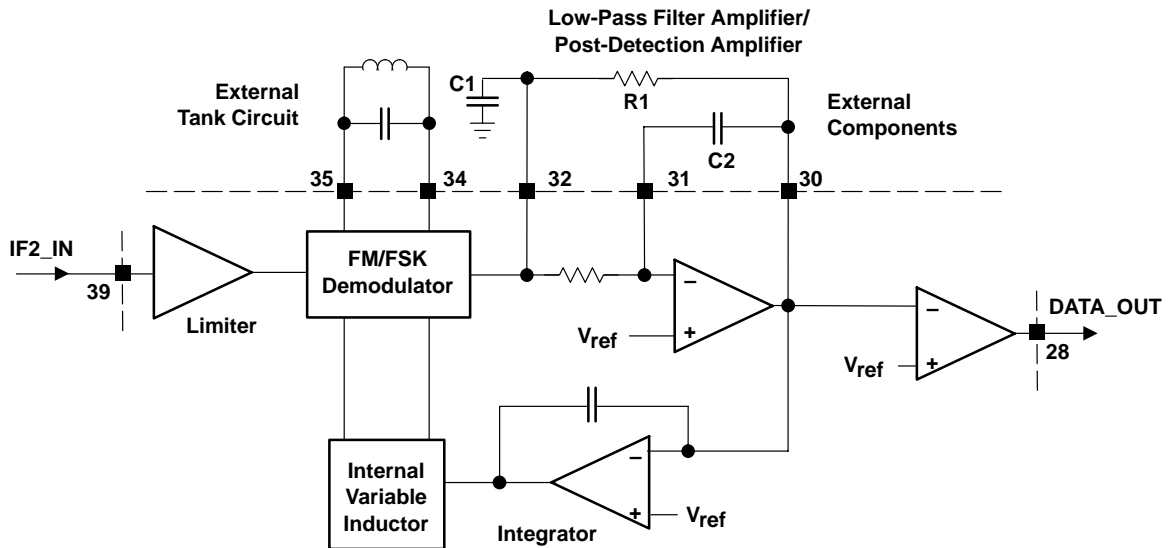

Figure 13. AFC Loop to Control the Data Slicer Decision Threshold
The demodulator is intended for analog (FM) and digital (FSK) frequency demodulation. It consists of a quadrature demodulator with an external LC tank circuit. A variable inductor, internal to the TRF5901, operates in parallel with the external tank circuit (see Figure 13), and is used to adjust the external tank circuit's resonant frequency. If the tolerances of the external demodulator tank circuit components can provide a maximum frequency error of less than 5%, then no additional adjustments are required. As long as the device is in the *learning mode*, the internal reactance automatically fine-adjusts the resonant frequency of the external LC tank circuit. Depending on the supply voltage, the tank circuit tuning range is approximately four times the discriminator 3-dB bandwidth.
The data slicer is fundamentally a comparator. The data slicer provides binary logic level signals, derived from the demodulated and low-pass filtered IF signal, that are able to drive external CMOS compatible inputs. The noninverting input is directly connected to the internal reference voltage,  $V_{ref}$ , and the inverting input is driven by the output of the low-pass filter amplifier/post-detection amplifier. The decision threshold of the data slicer is determined by the internal reference voltage,  $V_{ref}$ . The automatic frequency control (AFC) loop scheme for the TRF5901 is shown in Figure 13.